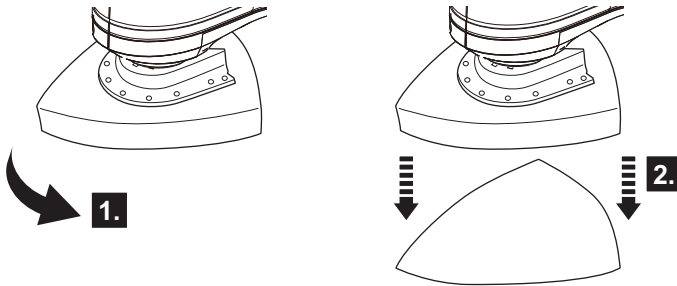

Fig. 2
- > Grip one corner of the sanding paper (11) and pull it off the base plate (7) (Fig. 2).